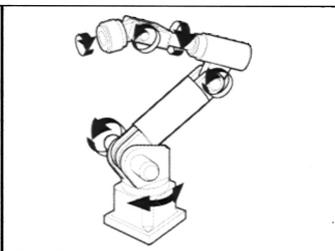

Fig.3 ARTICULATED
- 3. Articulated Robots** - Generally used in automation cells e.g. glueing, spraying, welding and assembly. Occasional use on moulding machines. Fig. 3